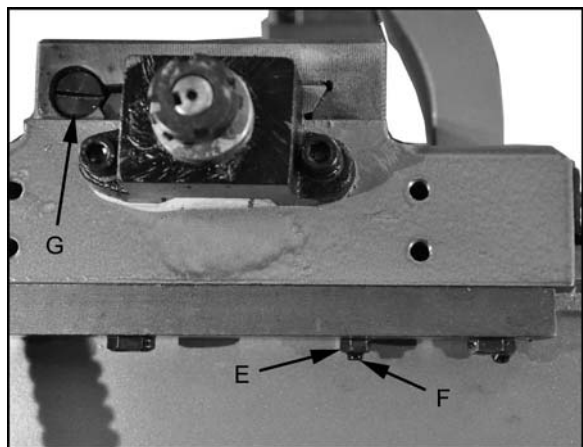

Figure 27
1. Loosen four hex nuts (E, Fig. 27) found on the bottom rear of the cross slide.
2. Turn each of the four set screws (F, Fig. 27) equally with a hex wrench until a slight resistance is felt. Do not over tighten.
1. Loosen the rear gib screw (G, Fig. 27) approximately one turn.